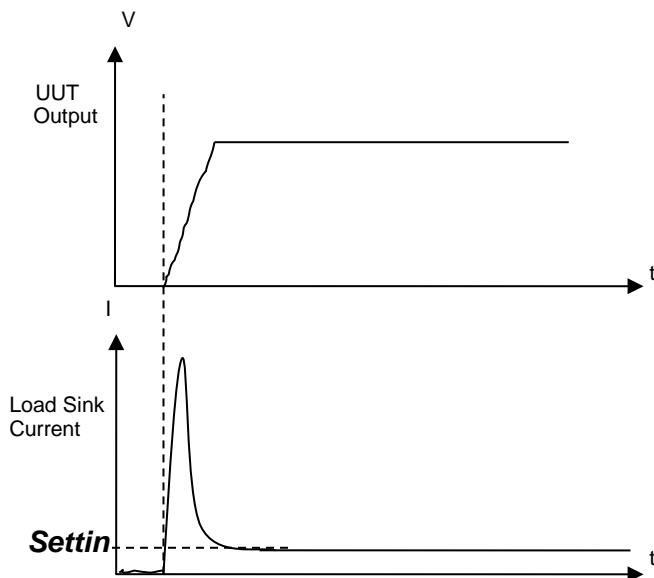

Figure 3-24 When Von Point sets to 0V without Protection
- (1) When the Von Point is set to 0V and the LVP sets no protection during “LOAD ON”, current overshoot will occur on the Electronic Load when the Switch (SW) is off. It may damage the UUT and Electronic Load under this circumstance as shown in Figure 3-24.